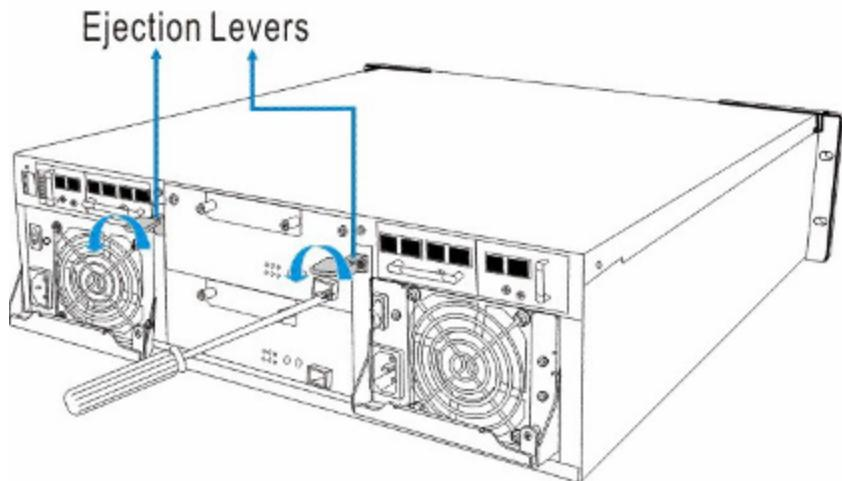

Figure 5-1: Removing Screws from underneath Ejection Levers
Step 2. **Remove the retention screws** that secure the controller ejection levers to the chassis. (See *Figure 5-1*)